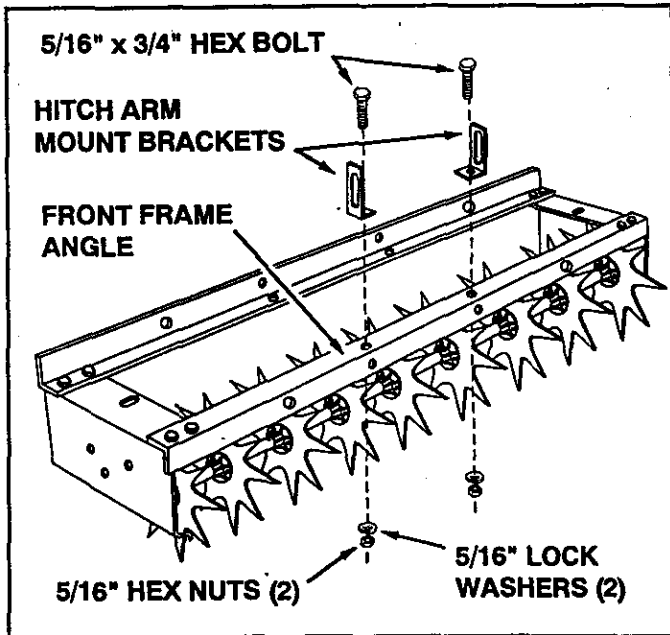

FIGURE 4
- Attach two hitch arm mount brackets to the middle holes in the front frame angle (bend pointing down) as shown in figure 4. Fasten each bracket with a 5/16" x 3/4" hex bolt, a 5/16" lock washer and a 5/16" plain hex nut. Make sure the brackets are aligned straight and then **tighten**. See figure 4.